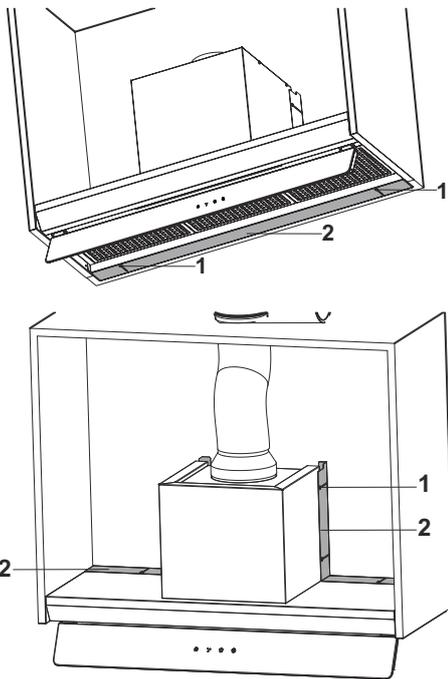

Fig. 15
4. ➤ If there is any clearance between the Hood and the rear surface, fill this clearance with the spacer plate mounted on the appliance (Fig. 15).
Loosen the spacer plate connection screws and stick the spacer plate by pushing it up to the back wall. Repeat this for the other spacer plates on the body (Fig. 15).